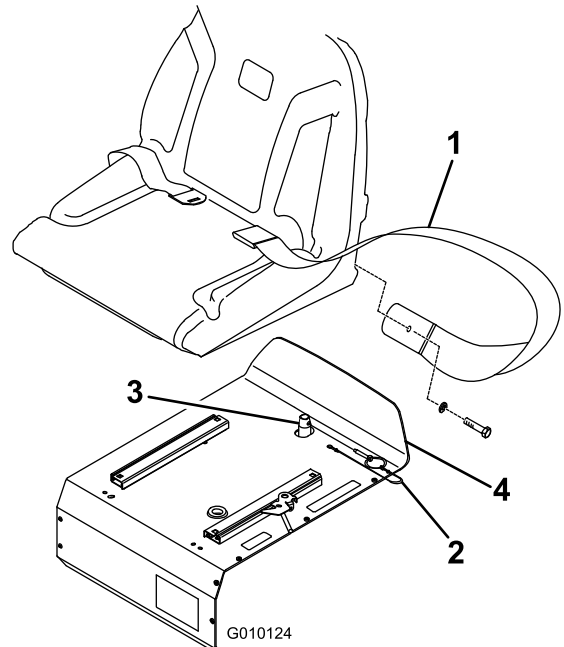

Figure 8
1. Install each end of the seat belt to the holes in the back of the seat with screws (7/16 x 1 inch) and lock washers (7/16 inch) (Figure 8). Tighten them securely. The latch side of the belt should be mounted to the left side of the seat.
2. Install the lynch pin into the seat pin to secure the seat support (Figure 8).